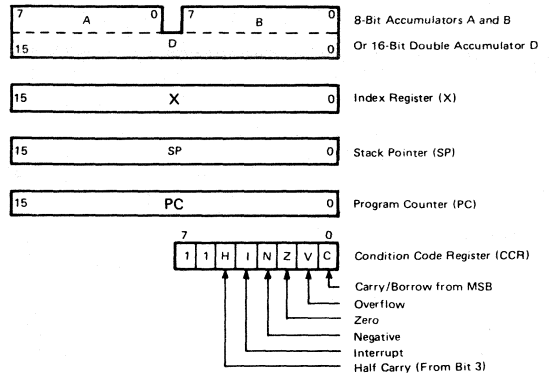

Figure 23 MCU Programming Model
- MCU Programming Model (Figure 23)
The programming model for the HD6801V is shown in Figure 23. The double (D) accumulator is physically the same as the Accumulator A concatenated with the Accumulator B so that any operation using accumulator D will destroy information in A and B.